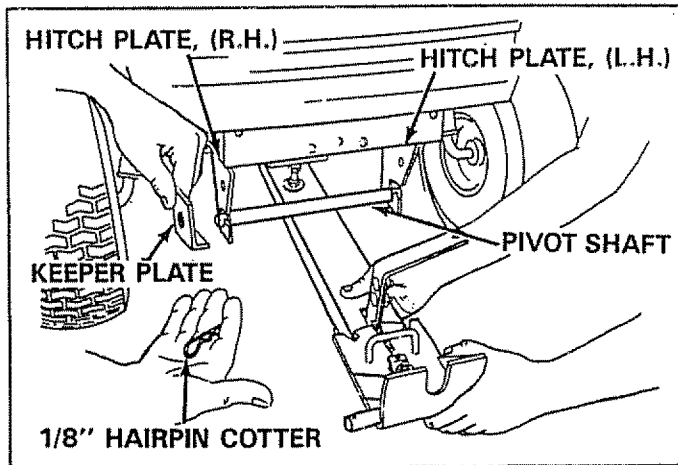

FIGURE 7
- Assemble keeper plates over each end of pivot shaft with lip under hitch plates (see figure 7) and secure with two 1/8" (large) hairpin cotter pins through small holes near each end of shaft.